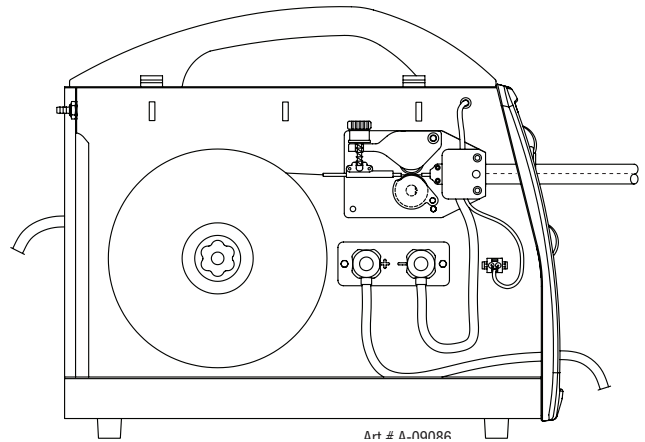

Figure 3-11: Wire Installed
8. Figure 3-11 shows the result with the wire installed.